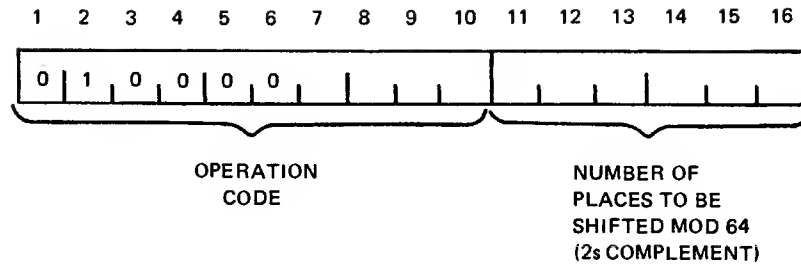

Figure 2-8. Shift Instruction
*Shift.*—The shift instruction word format is shown in Figure 2-8. The operation code specifies the type of shift and the direction. The shift count field is interpreted as a modulo 64 negative number in TWOs complement notation. Up to 64 shifts may be specified, although 33 is the maximum normally considered usable.